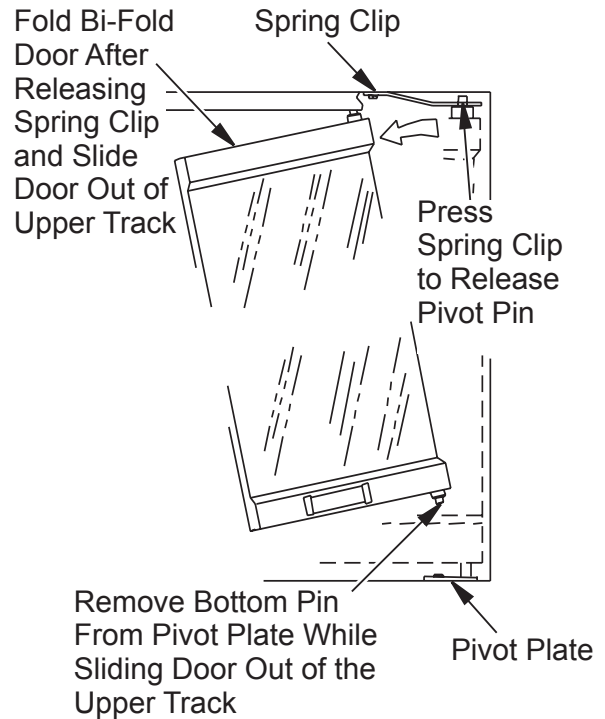

Figure 35 - Removing Glass Doors
2. Fully fold frame assembly and slide upper edge towards center of firebox opening until guide pins are free of frame rail (see *Figure 35*).